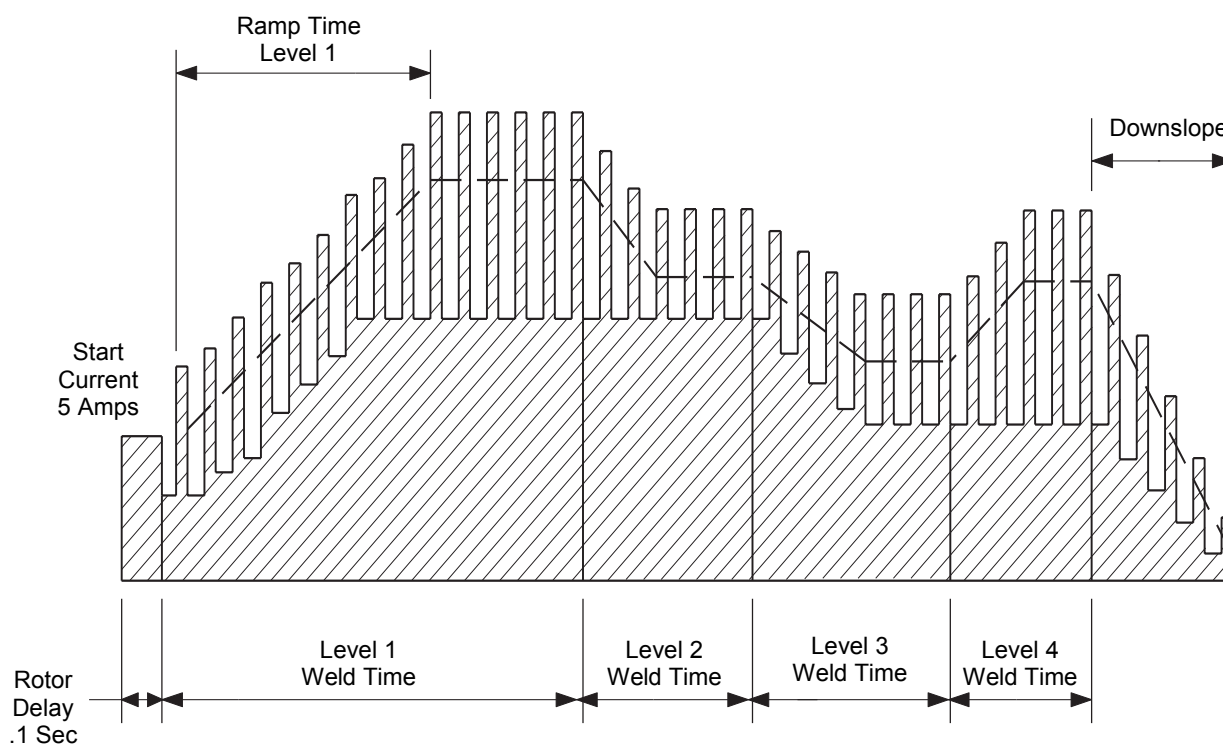

Figure 87
1. The weld does not penetrate immediately, see Figure 87.